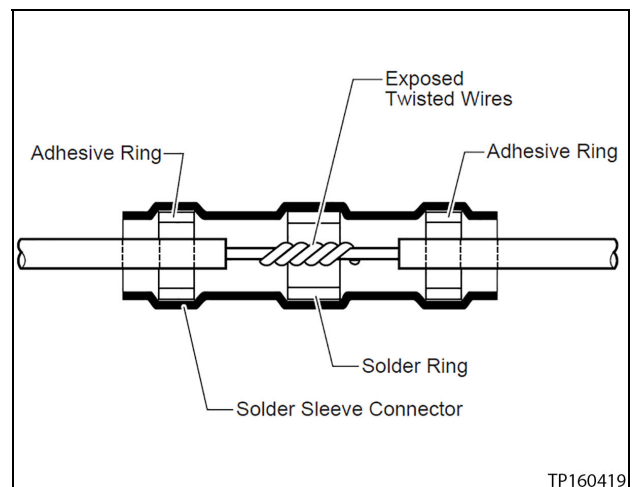

Figure 33
27. Position the solder ring in relation to the twisted wires as shown in Figure 33.